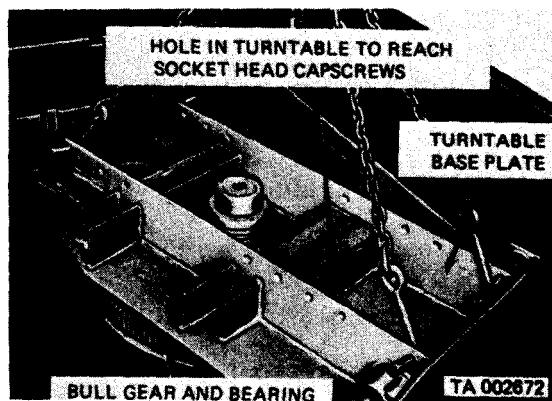

Figure 556. Removing and installing turntable base plate assembly.
(9) Remove socket head cap screws that attach bull gear bearing to body assembly. These cap screws are reached through hole (fig. 556) in turntable. Remove a cap screw, then turn turntable until next cap screw is accessible through hole.
(10) Attach overhead lifting device as shown in figure 556 and remove turntable base plate from body.
(1) Attach overhead lifting device to turntable base plate assembly, and lift into position on vehicle body as shown in figure 556.
(2) Aline holes and install socket head cap screws that attach bull gear bearing to body assembly. These cap screws are installed through the hole (fig. 556) in turntable. Install a cap screw, then turn turntable until next cap screw hole is accessible through hole in turntable.